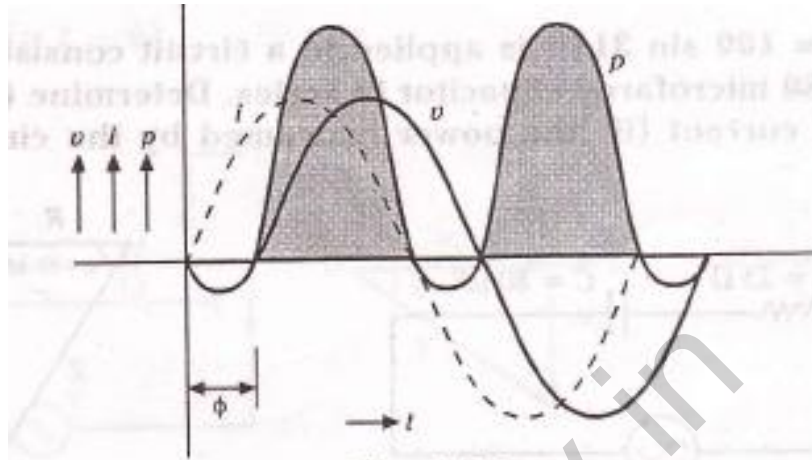

Fig. 3.54
**Power curves:** The power curve for R – C series circuit is shown in fig. 3.54. The curve indicates that the greater part is positive and the smaller part is negative, so that the net power is positive.